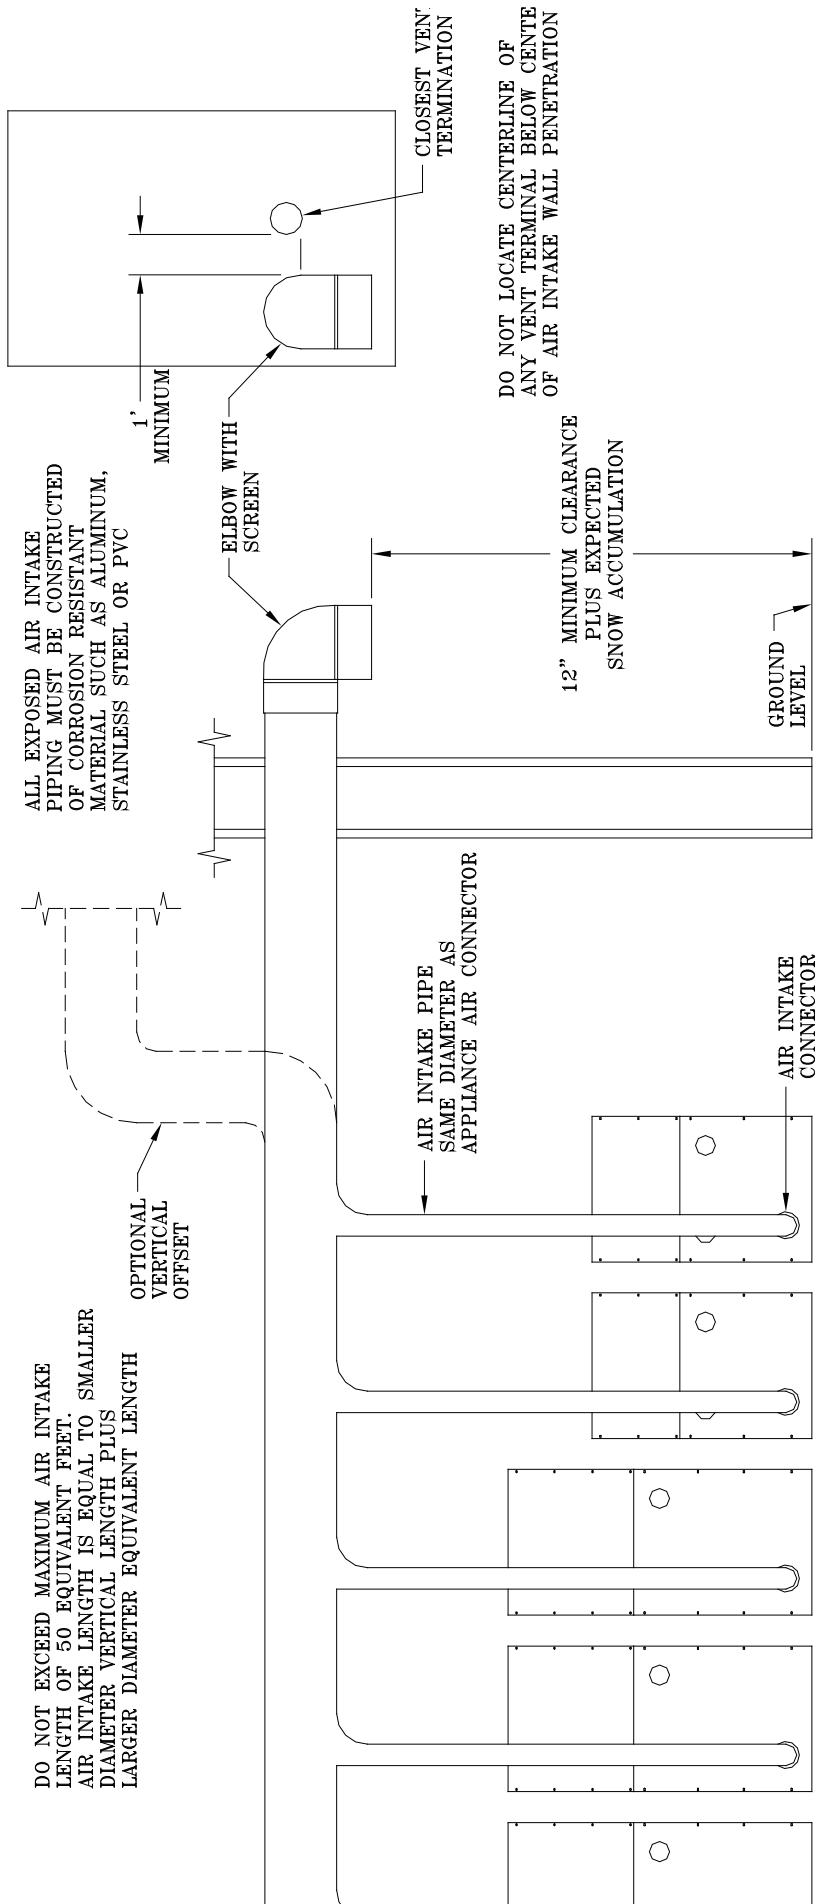
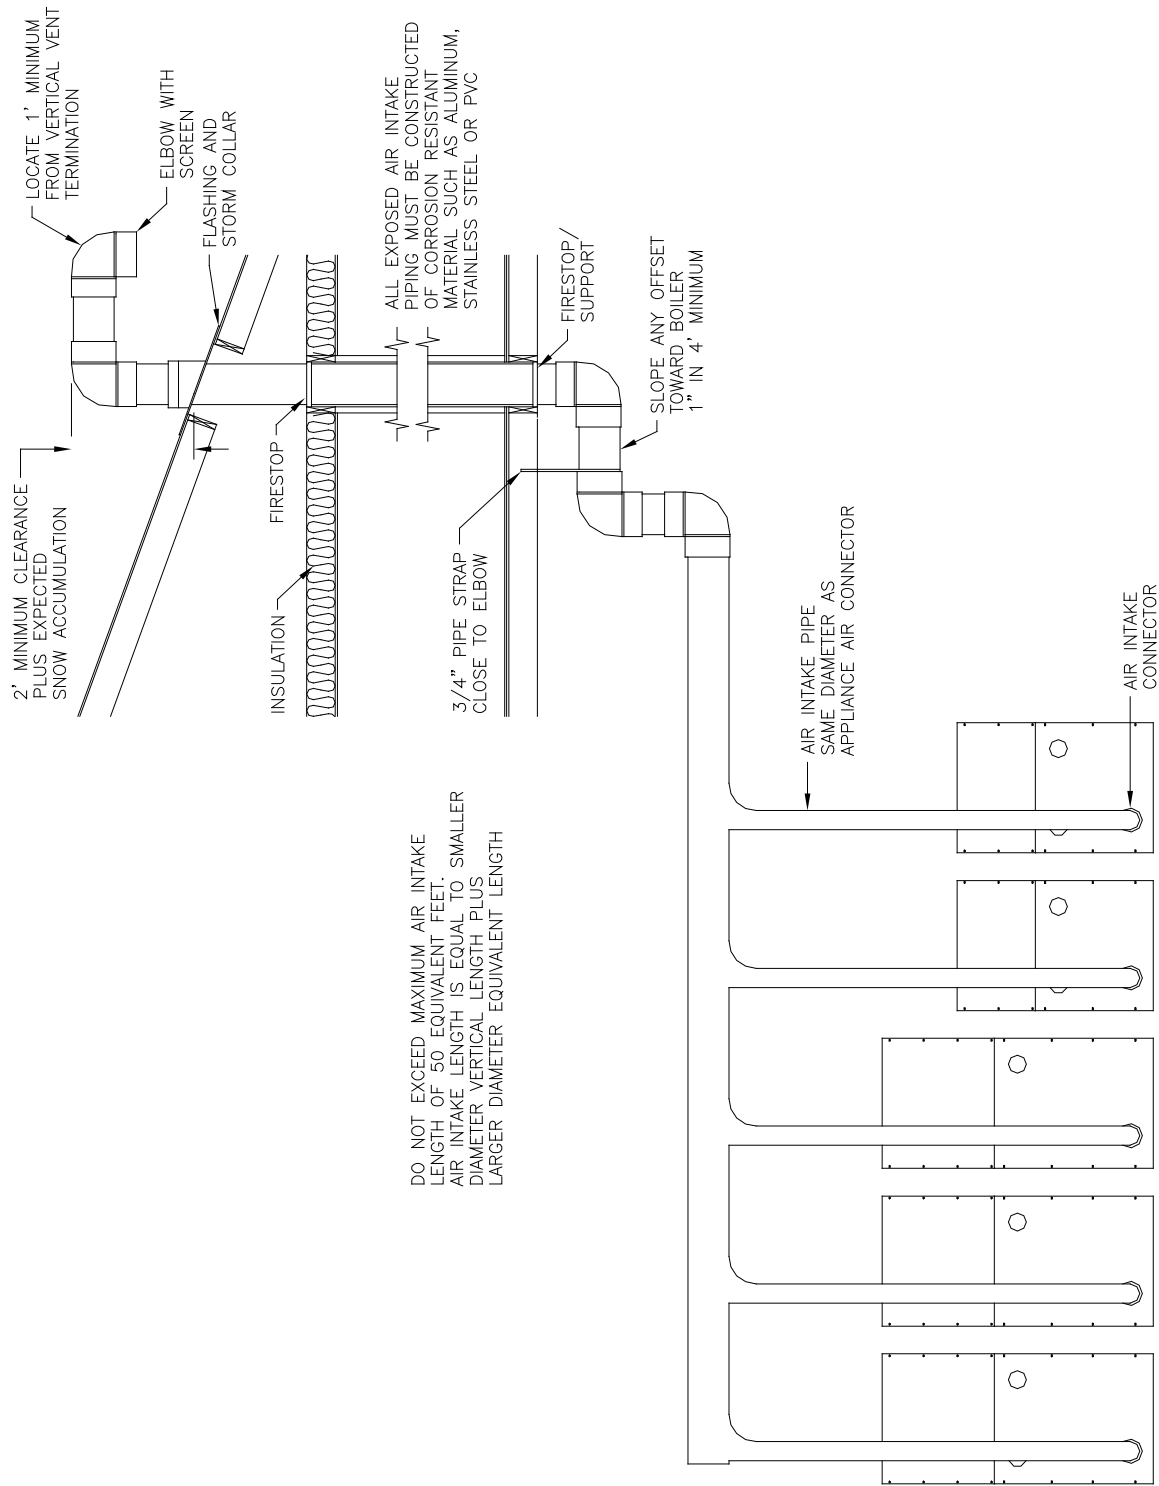

Figure 15: Modular System Horizontal Air Intake Piping
Figure 16: Modular System Vertical Air Intake Piping
- b. Refer to Figure 15 and Figure 16 for common air intake guidelines for modular water heaters.
- d. The maximum air intake length is fifty (50) equivalent feet. Common air intake straight lengths and fittings should be assumed to have the equivalent length the same as an individual air intake pipe, used for a given water heater intake pipe diameter.
- f. Vertical air intake pipe must terminate at least two (2) feet above the closest portion of the roof.